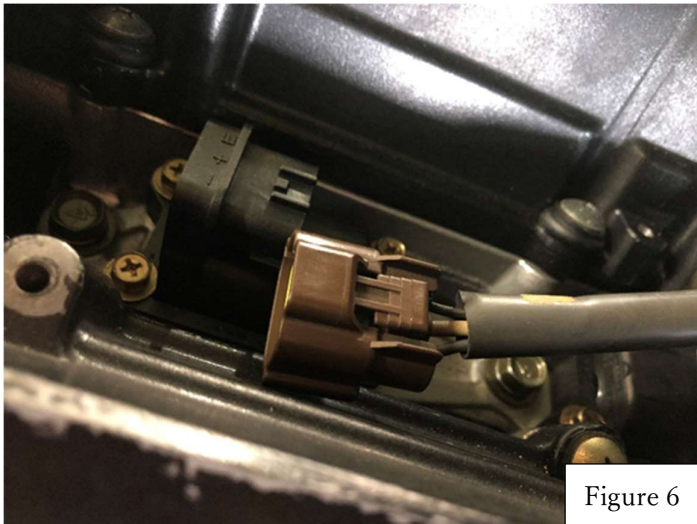

Figure 6
(5) Disconnect the six Ignition coil connectors. (Figure 6)